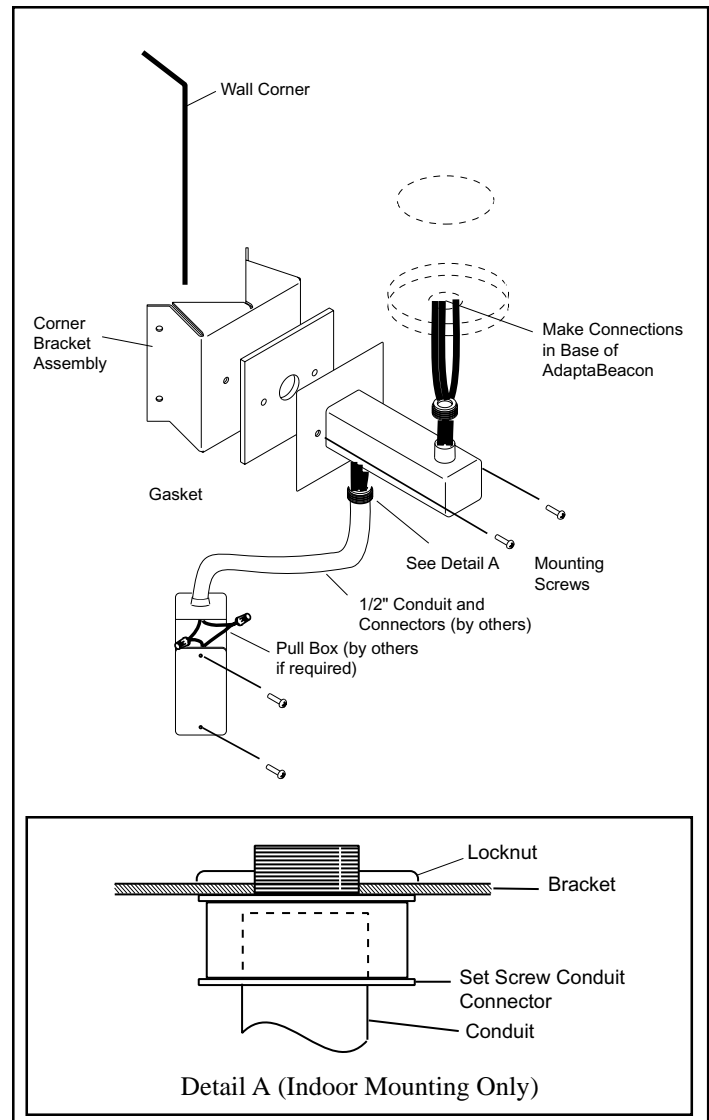
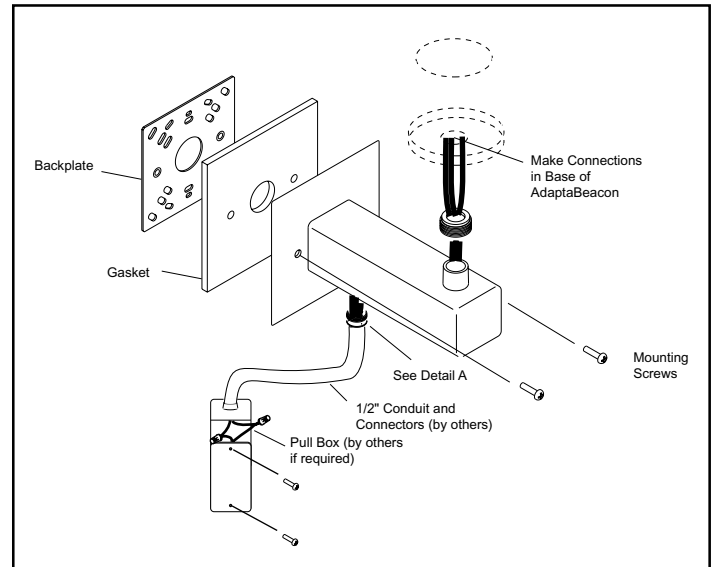
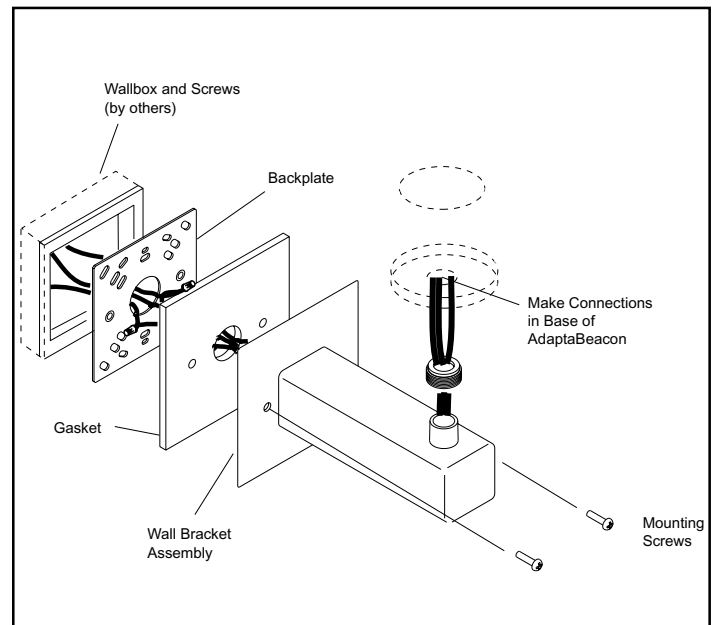

Figure 1. Corner Mount Bracket Surface Wiring
Figure 2. Wall Mount Bracket Surface Wiring
Figure 3. Wall Mount Bracket Concealed Wiring
The CBR Corner Mount Bracket may be used only with surface installed conduit/wiring (see Figure 1). The WBR Wall Mount Bracket may be used with surface installed conduit/wiring (see Figure 2) or with concealed conduit/wiring (see Figure 3).
Corner Mount (Figure 1)
Wall Mount - Surface Conduit/Wiring (Figure 2)
3. Remove the 1/2" (13 mm) knockout in the bottom of the bracket. For indoor applications, install a 1/2" (13 mm) set screw connector and locknut as shown in Detail A of Figure 1. For outdoor applications, use appropriate conduit hardware. A pull box may be used to simplify installation.
Wall Mount - Concealed Conduit/Wiring (Figure 3)